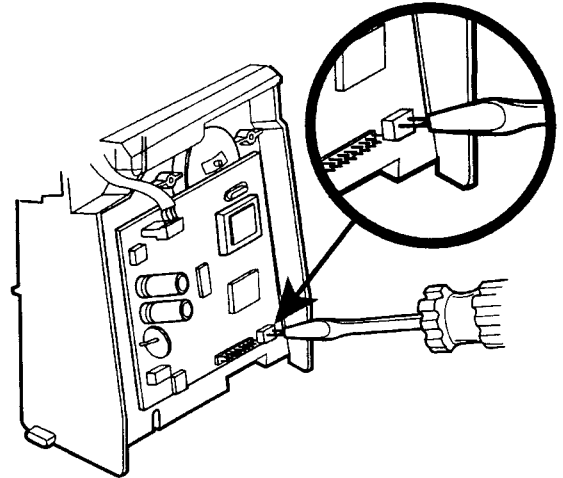

Figure 10: Shorting the Tuning Pins
- Short the set of tuning pins by touching both simultaneously with the tip of a metal screwdriver/tuning plug (Figure 10 on page 15).